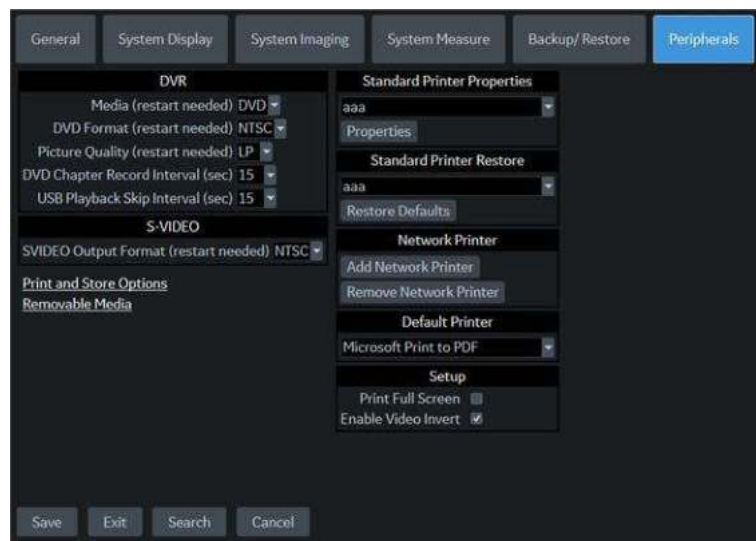

Figure 9-16. Network Printer
1. On the Utility ->System ->Peripherals page, Under “Network Printer,” select **Remove Network Printer** (Figure 9-16 on page 9-58).